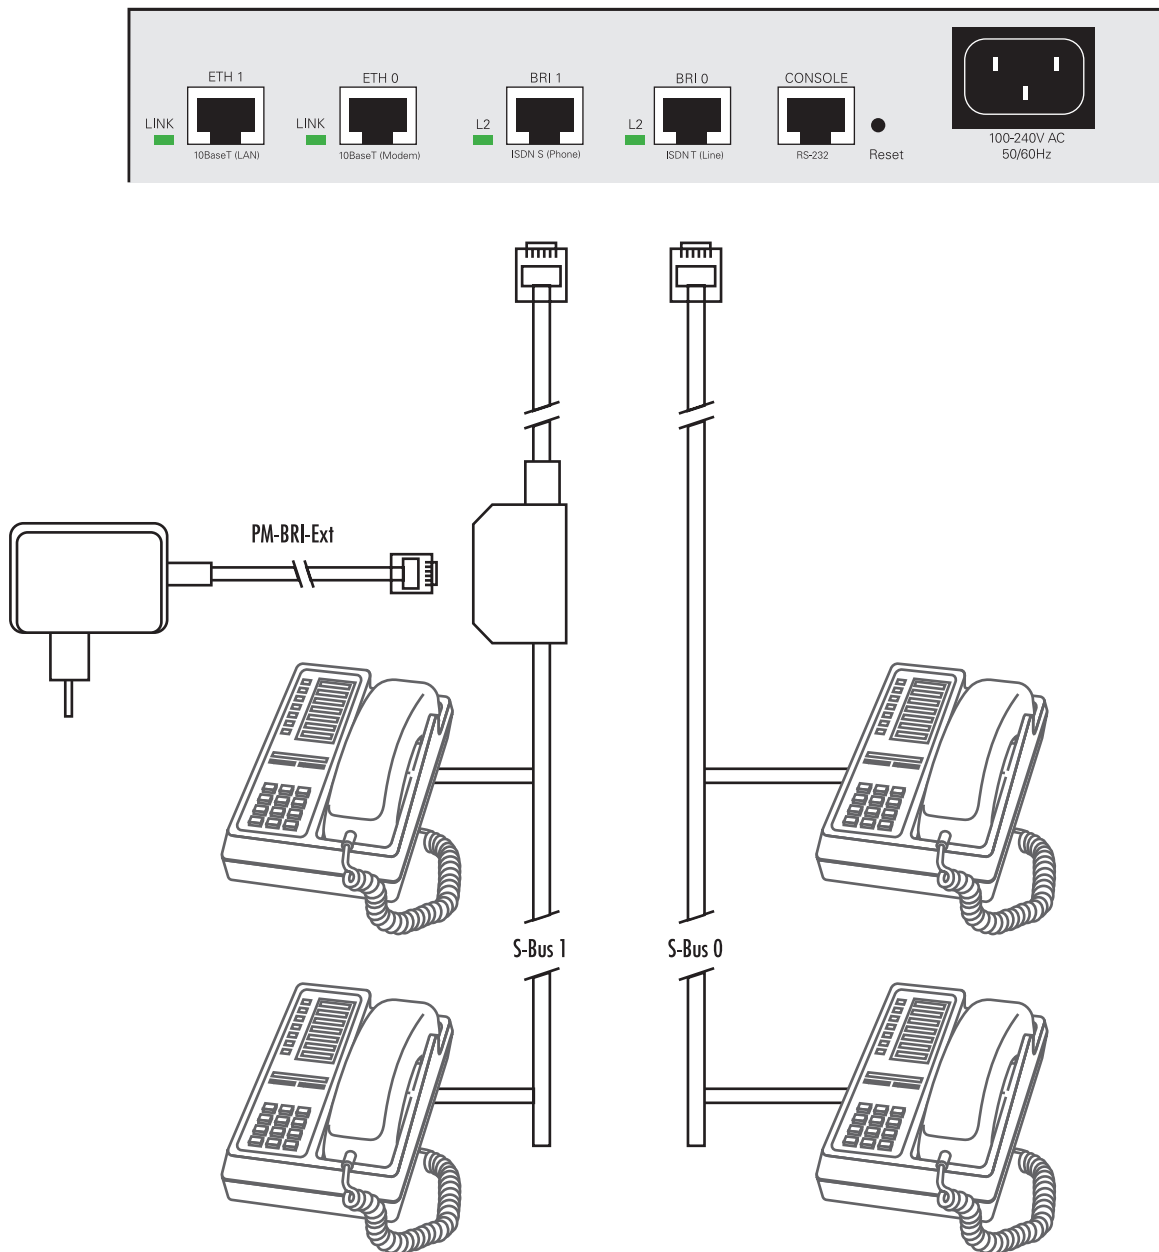

Figure 44. SmartNode 1200 external 40-VDC power supply
- The PM-BRI-EXT is connected to the S-Bus via an S-Bus multi-socket (see figure 44 on page 78).